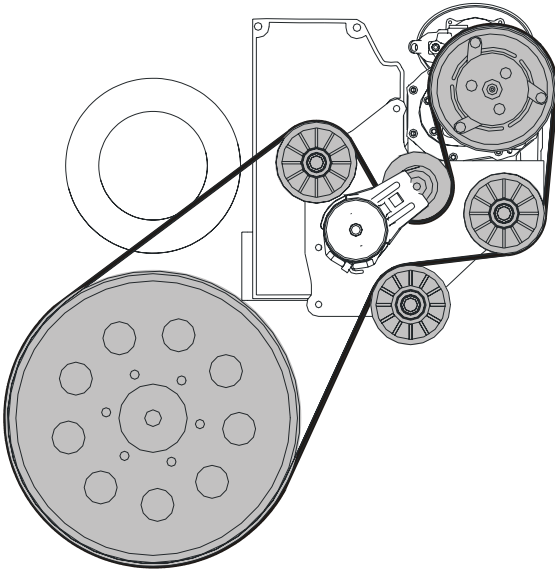

Figure 3.4
- Install the compressor belt (Figure 3.4).